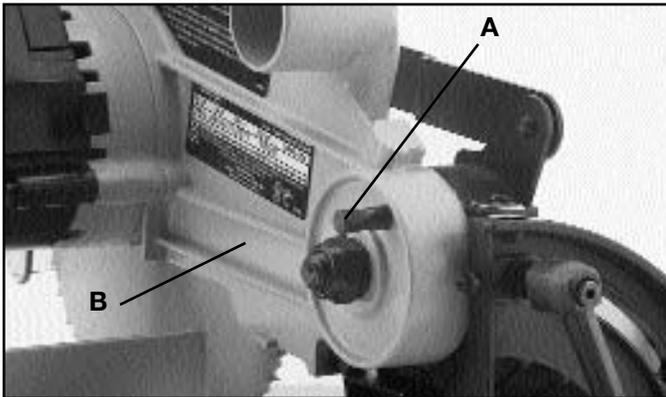
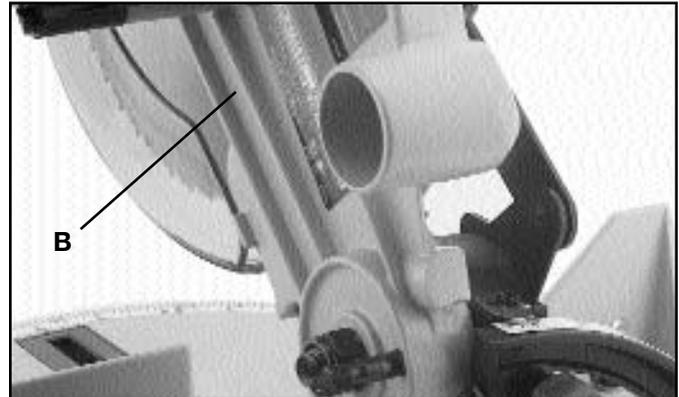

Fig. 3
Fig. 4
1. Pull pin (A) Fig. 3, to the out position releasing the cutting arm (B) and allow cutting arm (B) to move to the up position, as shown in Fig. 4.